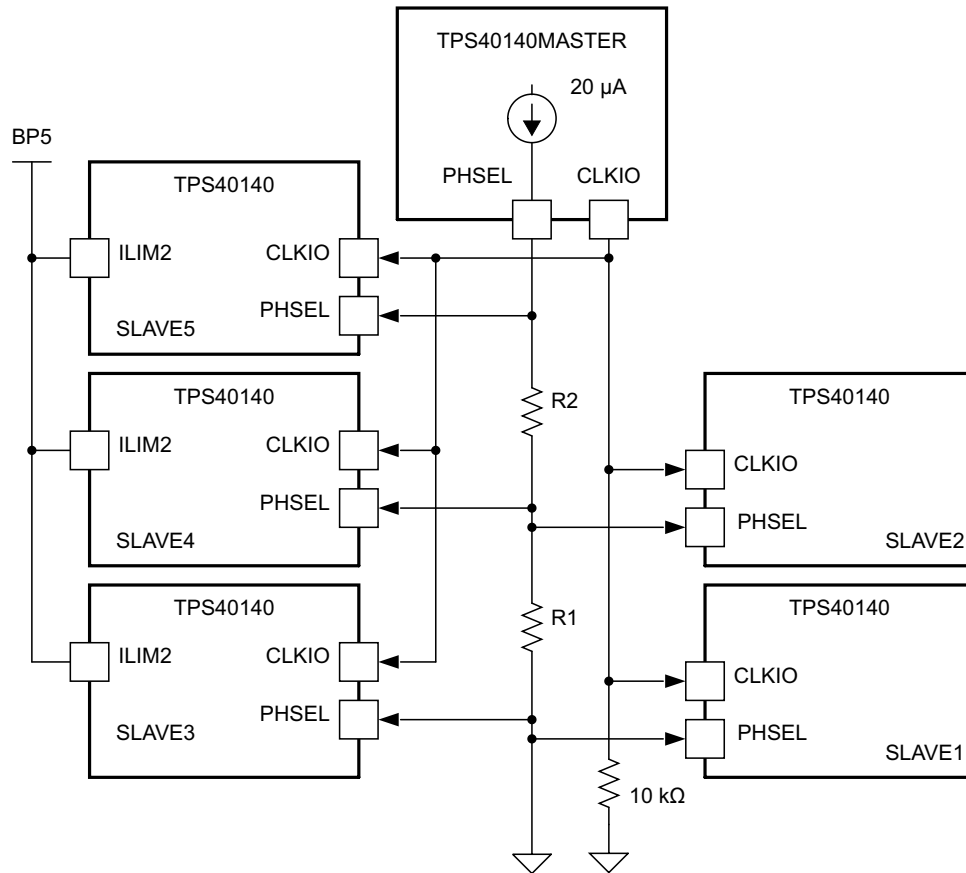
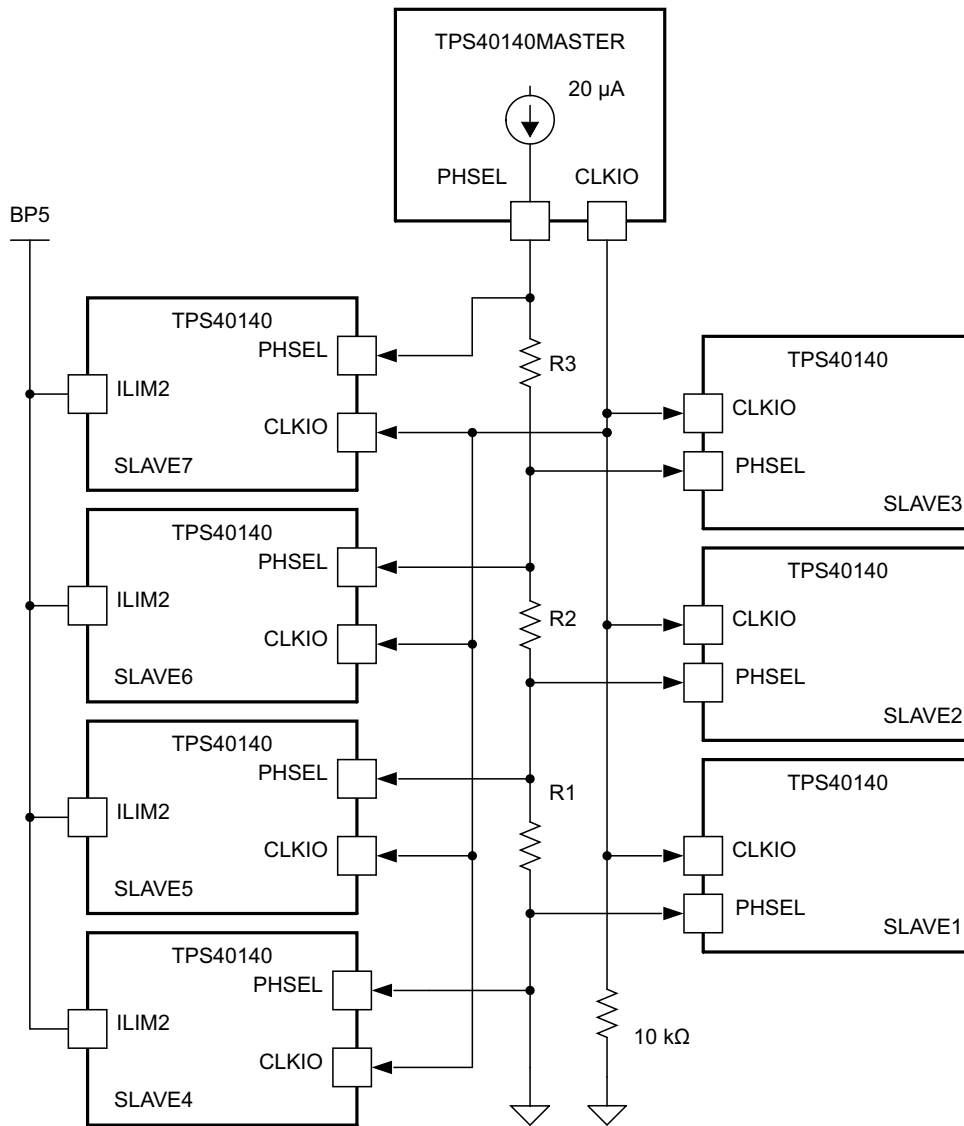
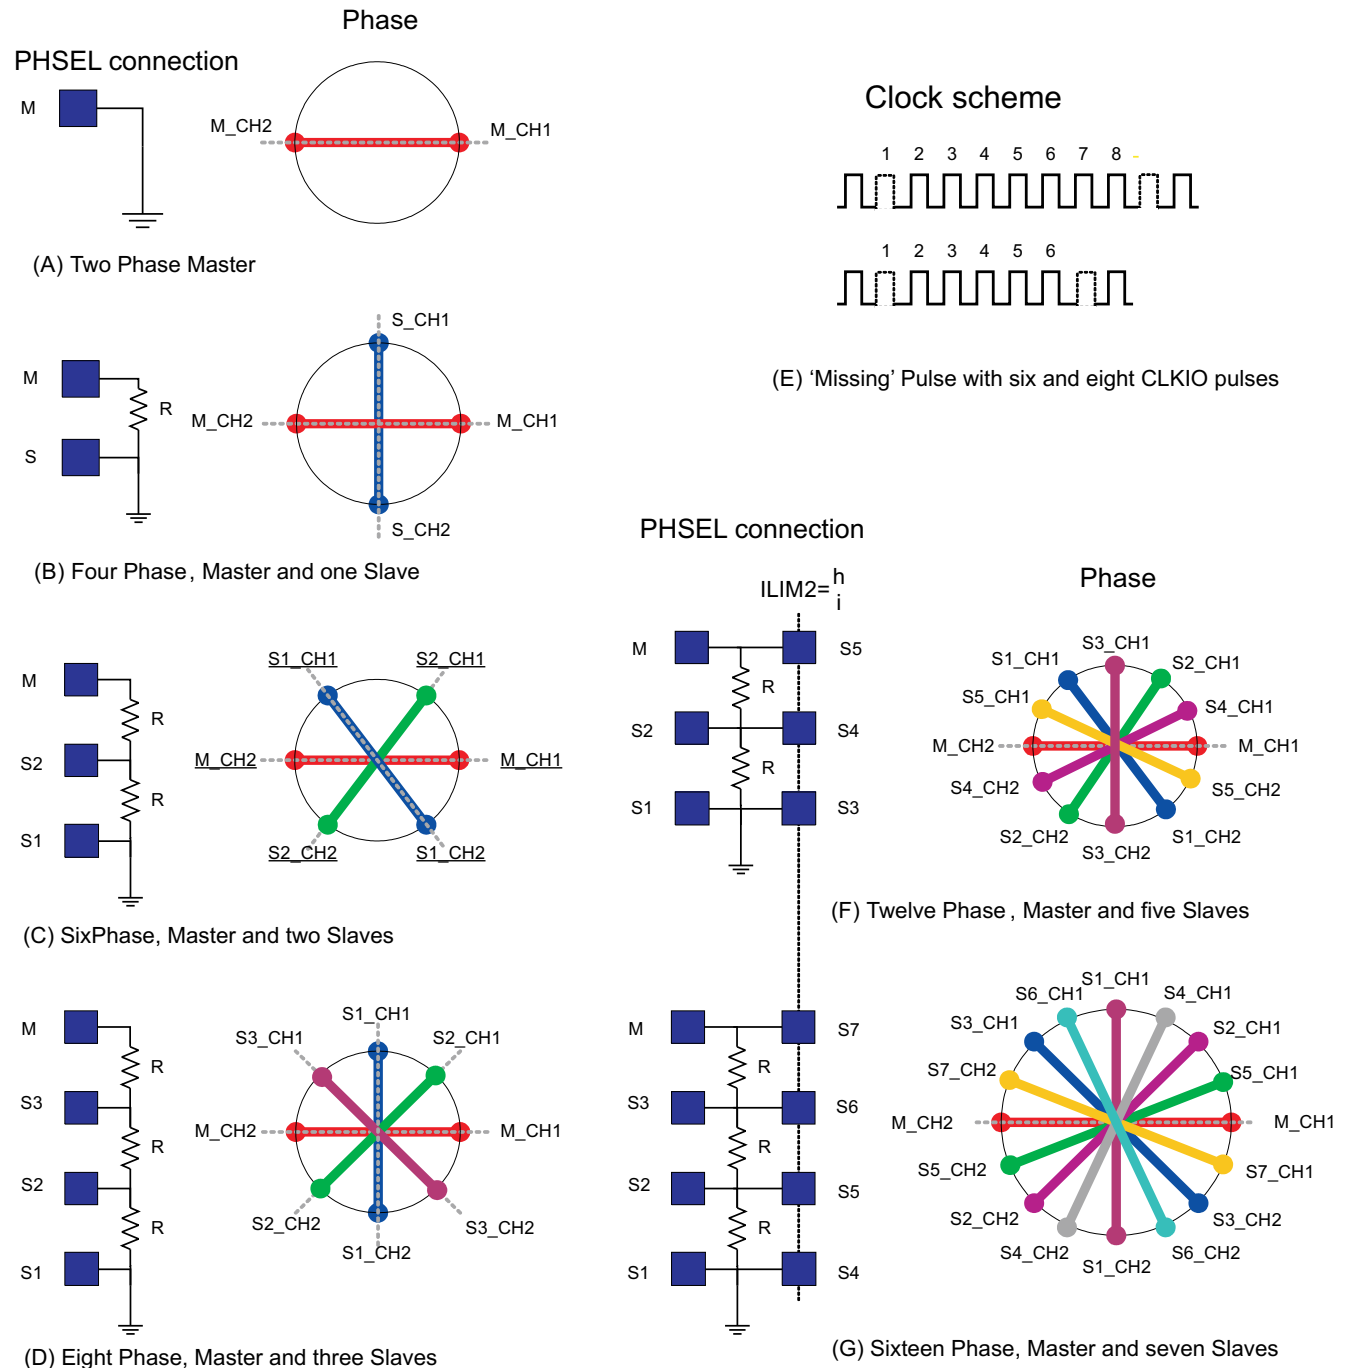

Figure 24. Master Controller and Five Slave Controllers, 12-Phases
Figure 25. Master Controller and Seven Slave Controllers, 16 Phases
Figure 26. Clock Phasing Summary
To further increase the total current capability to twelve phases, or to increase the number of outputs, five slave controllers can be added as shown in Figure 24.
If four slaves are desired, just delete one of the slaves from Figure 24. The interleaving is not perfect because there is a 30° between the master and three slaves. The deleted slave causes 60° between the two adjacent slaves. See Figure 26 for phasing details.
To further increase the total current capability to sixteen phases, or to increase the number of outputs, seven slave controllers can be added as shown in Figure 25.
In this configuration, the master senses that there are three slave controllers (due to the three resistors) and distributes an eight-phase CLKIO signal. Slave1, slave2, and slave3 are turned on at 90°, 45°, and 135° respectively as before with three slaves. However, to get sixteen phases with an eight-phase clock, both edges of the CLKIO signal are used to control the slaves. With the ILIM2 tied high on slave4, slave5, slave6, and slave7 they turn on at the rising edge of CLKIO, while the master and slave1, slave2, and slave3 turn on at the falling edge of CLKIO. If six slaves are desired, just delete one of the slaves from Figure 25. The interleaving is not perfect because there is 22.5° between the master and three slaves. The deleted slave causes 45° between the two adjacent slaves. See Figure 26 for a phasing details.
Figure 26 is a summary of the master and slave clock phasing. The master and the slaves can be selected to be a multi-phase, single output configuration and/or several independent output voltage rails, independent of the clocking.
The solid square boxes in Figure 26 represent the PHSEL pin of the master (M) controller or a numbered slave controller (S1-S7). The labels on the spokes of the wheels indicate a master Channel 1 and master Channel 2 (M_CH1 and M_CH2) and numbered slaves Channel 1 and slave Channel 2 (Sn_CH1 and Sn_CH2). The Channel 1 and Channel 2 of a given master or slave is always 180° out-of-phase.
The 3-phase system could also be configured with 1 channel of the master and 2 channels of the slave. Referring to Part (B) above, the 3 phases could be master CH1 or master CH2 and slave CH1 and slave CH2. In either of these configurations there is 90° between two of the channels and 180° between the other channel. The unused channel could be another independent output voltage whose clocking would occupy the phase not used in the 3-phase system. This philosophy can be used for any number of phases not shown in Figure 26, *Clock Phasing Summary*.